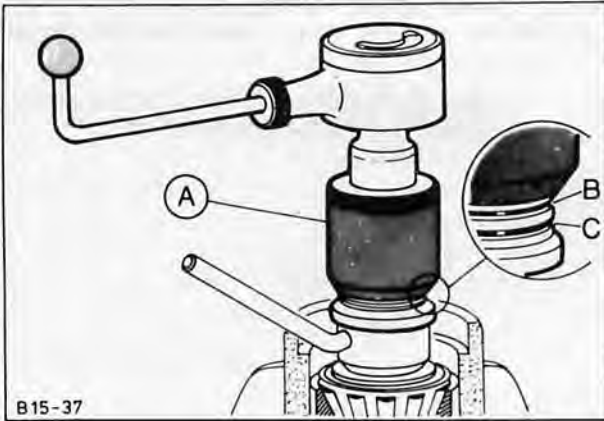

Fig. 69. Pre-load sleeve 15-023
- Insert master pinion in casing, slide on outer bearing and handle, screw on pre-load sleeve. Hold master pinion handle still and turn hexagon of pre-load sleeve clockwise until, in the case of new bearings, the outer bell of the tool lines up on the C mark (use B mark for used bearings), Fig. 69.